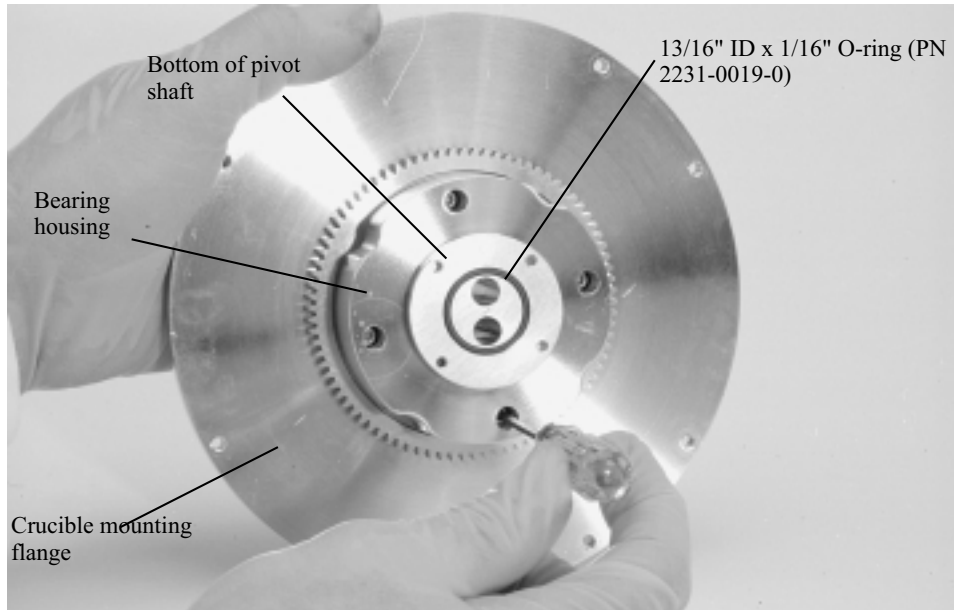

Figure 5-23. Removing the screws that secure the bearing housing assembly to the crucible mounting flange
Step 23: Remove the four 6-32 5/8" screws that secure the bearing housing to the crucible mounting flange. To do so hold the bearing housing-mounting flange assembly in one hand, with the top of the mounting flange facing down. Then insert the Allen driver into the recesses in the bearing housing that hold the four screws and remove them, as shown in Figure 5-23. Figure 5-24 shows these parts disassembled.